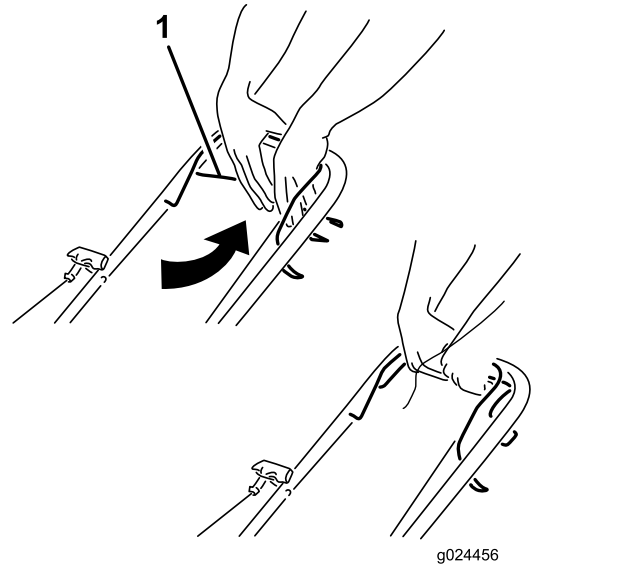

Figure 16
- **To engage the self-propel drive:** Squeeze the self-propel-drive bar against the handle and hold it (Figure 16).